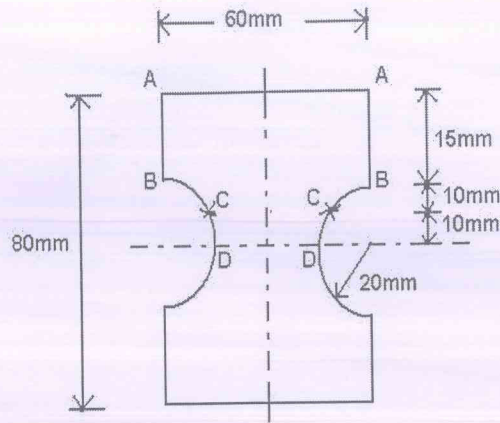

Fig.2
7. For a section shown in figure 2. Determine the shearing stresses at A, B, C and D for a shearing force of 23kN. Also sketch the shear stress distribution across the section.
b) A solid conical bar of circular section is suspended vertically as shown in Fig.2. If the length of the bar is 'l' and the weight per unit volume of the material of the bar is 'w', determine the total elongation of the bar due to its own weight.